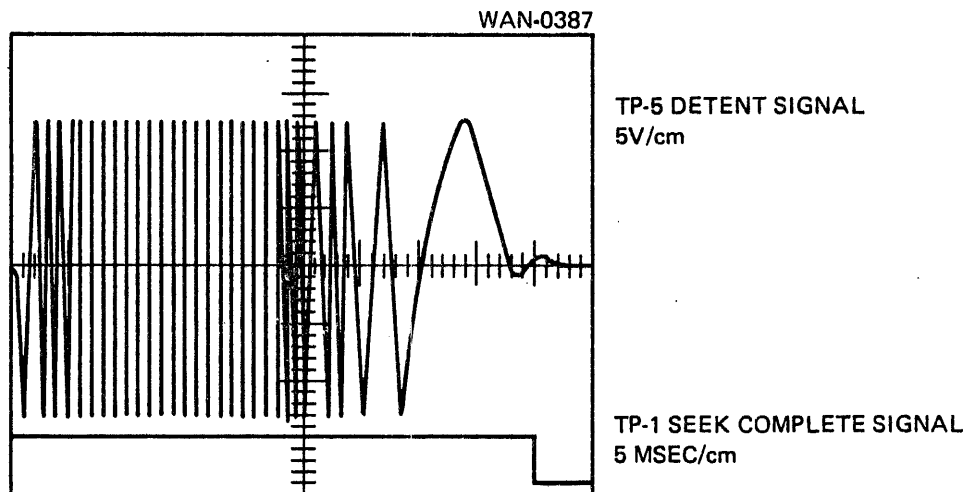

Figure 5-37. Waveform – Speed Adjustment
- D. Adjust SPEED ADJ. potentiometer (R126) for seek length of 84 ± 1 msec on channel 2 as shown in Figure 5-37.